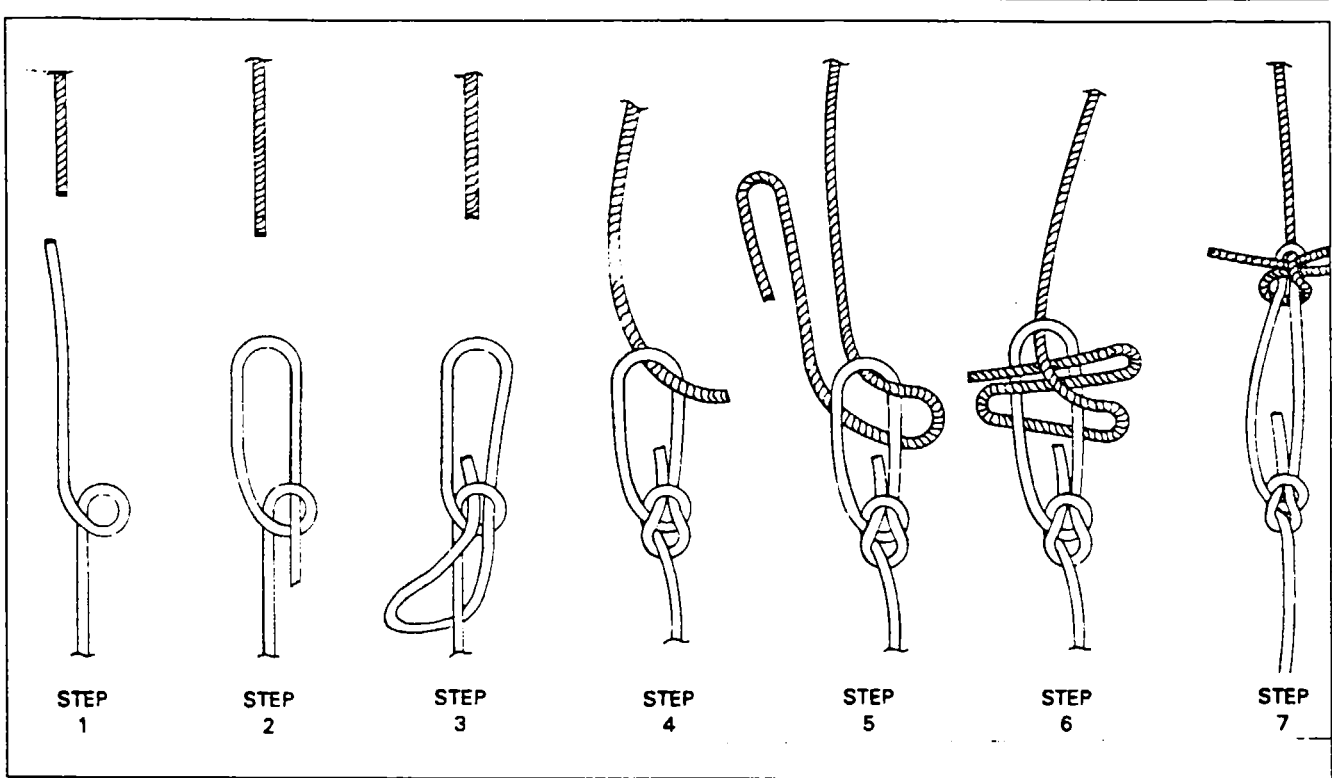

Figure 28-7. Fuel Cell Tie Detail
19. Draw the nylon tie cords tight and hold. Ascertain the cell is in correct position in the cell compartment. Again draw the cord tight, hold with clamp or pliers and tie. A recommended tie is shown in Figure 28-7.